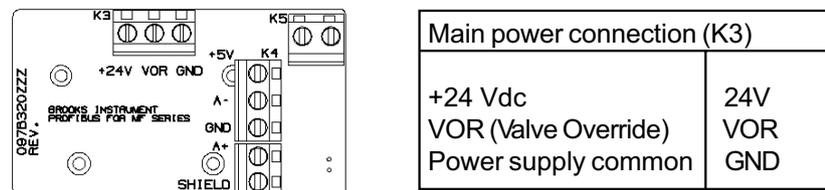

Figure 2-4: MF Profibus Main Power Connection
The MF series have a PG11 connector at the inlet side of the mass flow device for the power supply and analogue I/O. In case of profibus no analogue I/O is possible, except for the Valve OverRide (VOR) input. In these cases this PG11 connector is solely used for the power supply connection and the VOR input signal. Figure 2-4 shows the terminal connection location for power supply and V.O.R. the power connection (as well as the profibus connection terminals) can be access-seal by opening the top cover plate by removing the four polts on the top of the cover plate.
4. Verify that all user-selectable jumpers and switches have been set to the appropriate positions. Refer to Figure 2-4 and table 2-4.